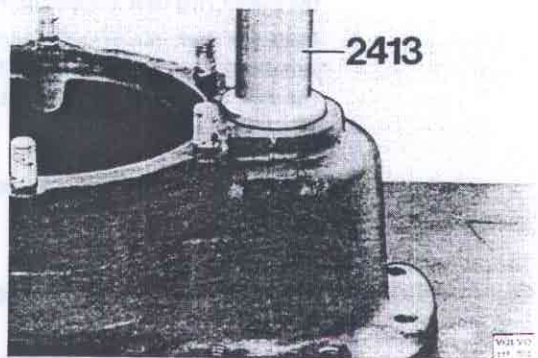

Fig. 46-98. Pressing out gear wheel
8. Place the final gear in a press and press out the gear wheel, bearing and needle bearing at the same time with 2413, Fig. 46-98.